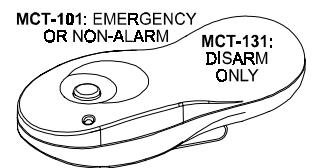

Figure 23. MCT-131 / 101
E. MCT-131 / MCT-101 (see Fig. 23): Single-button units. The MCT-231 (CodeSecure) and the MCT-201 (PowerCode) can be enrolled to perform functions as shown. Both units look alike.